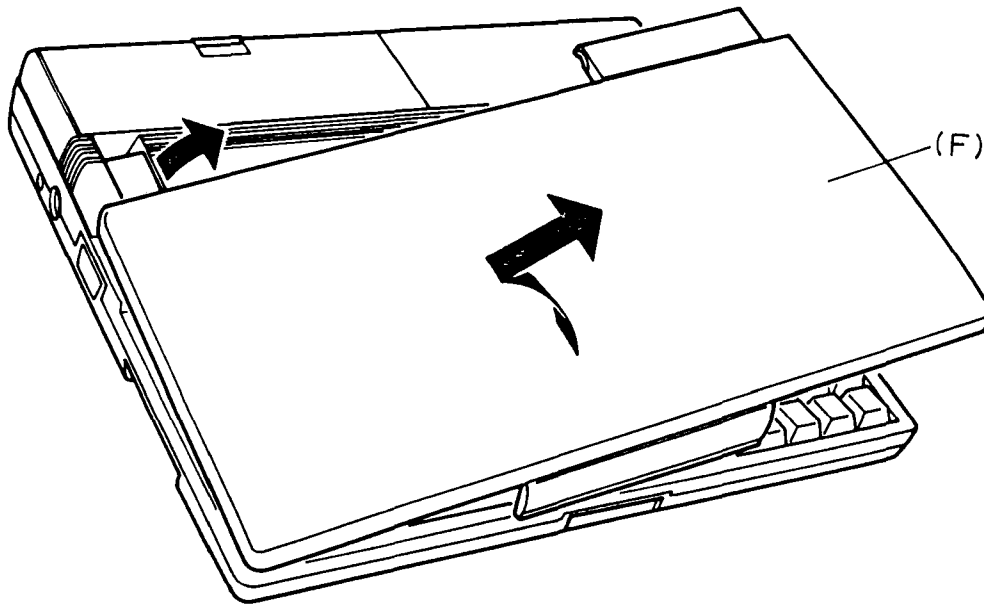

Figure 4-14 Removing the LCD cover assembly
4. Bend the LCD cover assembly (F) toward you, then remove it lifting the right edge. Refer to figure 4-14.